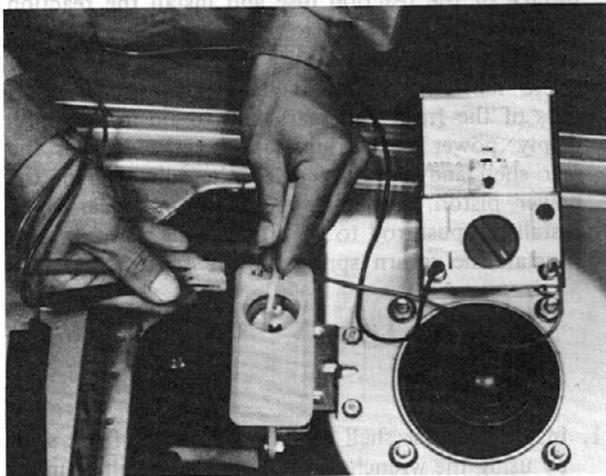

Fig. 11-25
2. Connect a circuit tester to the coupler and check the continuity by moving the float up and down, as shown in Fig. 11-25.